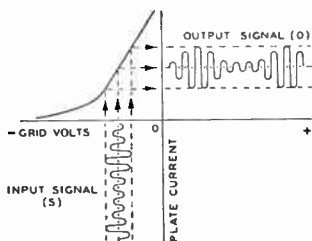

Fig. 12
As a **class A voltage amplifier**, an electron tube is used to reproduce grid voltage variations across an impedance or a resistance in the plate circuit. These variations are essentially of the same form as the input signal voltage impressed on the grid, but of increased amplitude. This is accomplished by operating the tube at a suitable grid bias so that the applied grid-input voltage produces plate-current variations proportional to the signal swings. Since the voltage variation obtained in the plate circuit is much larger than that required to swing the grid, amplification of the signal is obtained. Fig. 12 gives a graphical illustration of this method of amplification and shows, by means of the grid-voltage vs. plate-current characteristics curve, the effect of an input signal (S) applied to the grid of a tube. O is the resulting amplified plate-current variation.